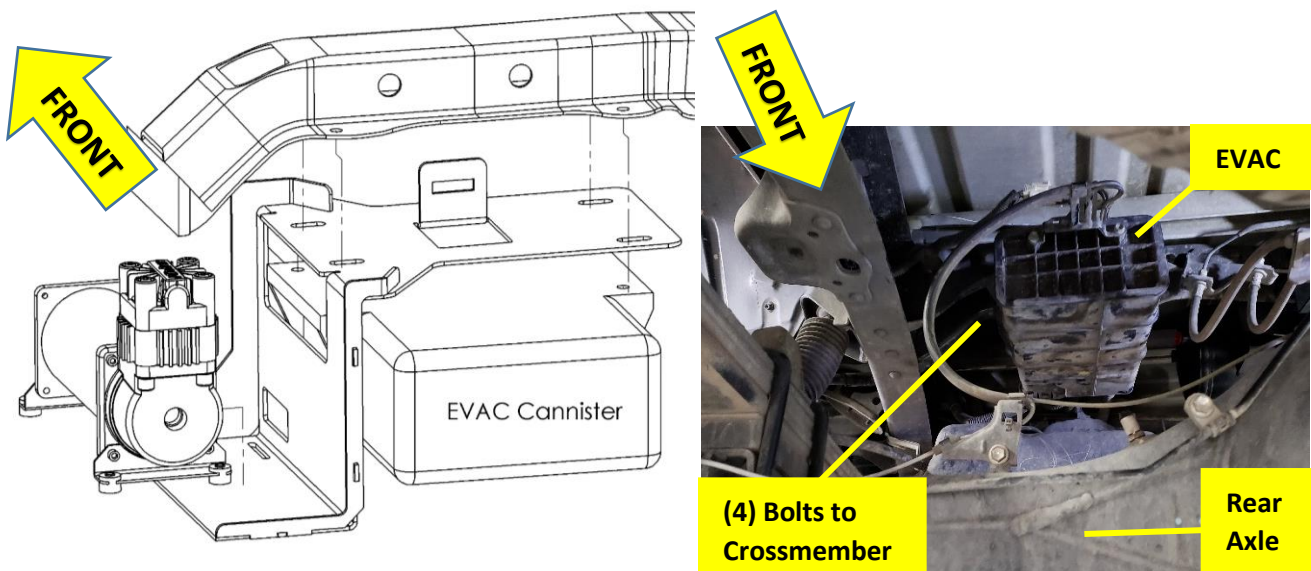

Figure 7 - TUNDRA-101 with Air Compressor and EVAC, Exploded View
- 10.2.1. Locate four (4) M8 Evaporative Cannister (i.e., EVAC) bolts going into crossmember, as shown in Figure 7 above, and Figure 8 below.